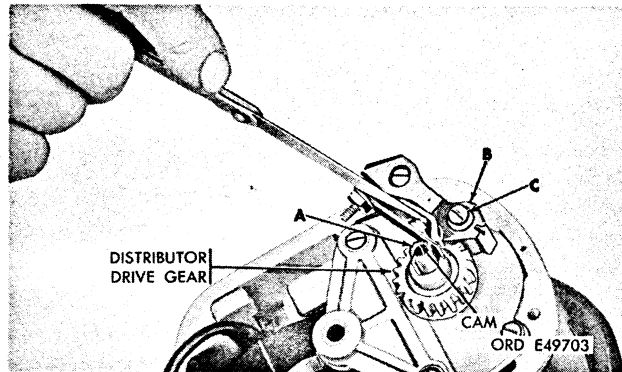

FIGURE 74.10 CHECKING POINT GAP.
b. Installation of Point Set and Plate. Refer to paragraph 127.6d(2) and reverse the sequence of instructions to install the point set and plate. Do not tighten screw (B), until point gap is adjusted.
c. Adjust Point Gap. Adjust point gap as follows (figure 74.10):
- (1) Rotate drive gear (A) until one of the two cams contacts the point set.
- (2) Move point plate (B) as necessary until a point opening of 0.008 to 0.012 is obtained.
- (3) Tighten screw (C) securely when point gap is satisfactory.